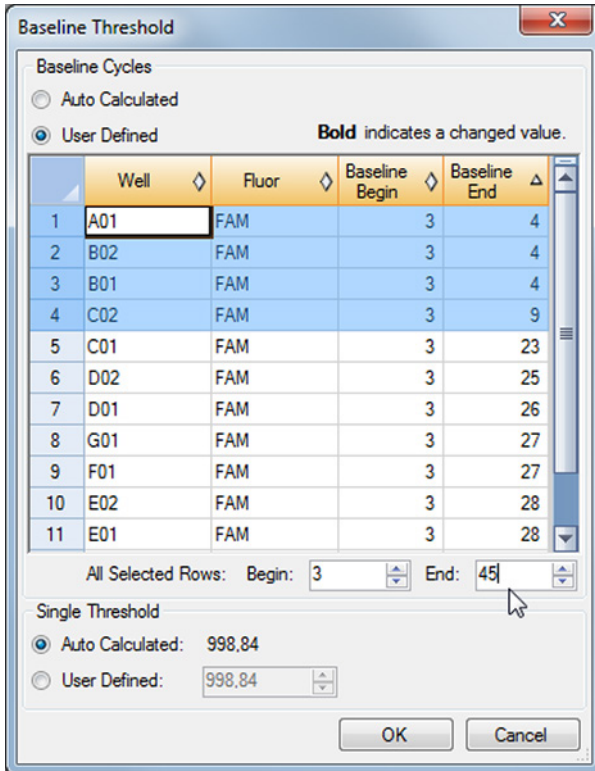

Figure 5: Baseline Threshold dialog
3. In the menu bar of the Data Analysis window click **Settings** → **Baseline Threshold...** to open the Baseline Threshold dialog (see figure 5).
5. Select all lines that show a **Baseline End** value of 1–9 (see figure 5).
6. Set the value in the **End:** field to 45 for the selected lines (see figure 5).
9. Repeat steps 3–7 for the VIC™ (IC), ROX™ (HSV-1 target) and Cy5 (HSV-2 target) detection channels.